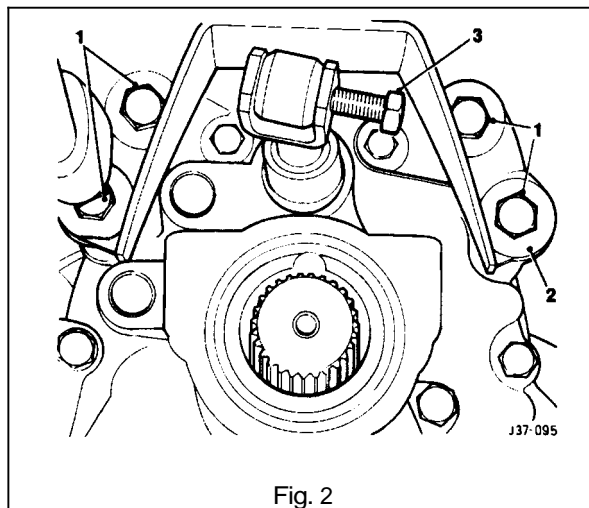

Fig. 2
- From below: remove selector shaft yoke securing nut/ bolt (3 Fig. 2).
- Remove gear selector remote control securing bolts (1 Fig. 2).
- Remove mounting rubbers and washers (2 Fig. 2).